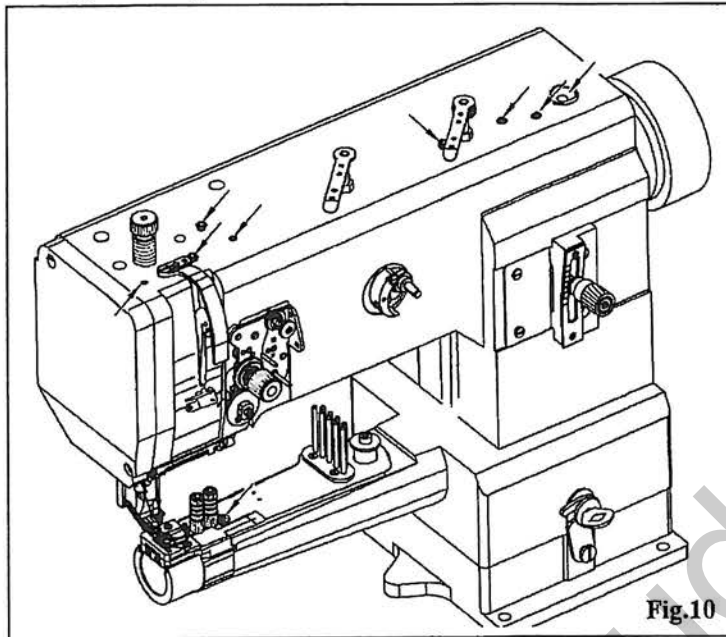
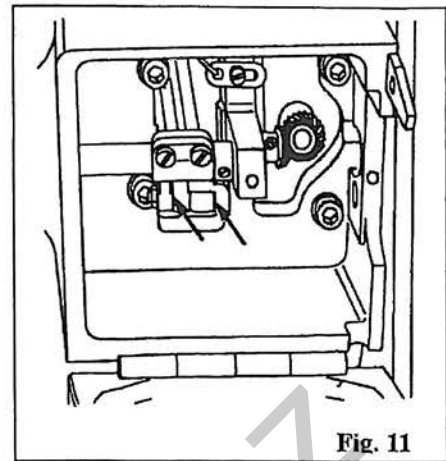

Fig.10
Fig. 11
- ① Clean the rotating hook and rotating hook area daily, more often with constant use.
- ② Bring the needle bar to its highest position and remove the free arm cap.
- ③ Take out the bobbin capsule and bobbin.
- ④ Unscrew capsule holder piece.
- ⑤ Take out screw and lift up the rotating hook handle.
- ⑥ Turn the balance wheel until point stands at the same height as rotating hook point .
- ⑦ Take out the lower capsule and clean the rotating hook path with petroleum.
- ⑧ Put it back together in reverse order of the above. Make sure that the nose on the back of the capsule holder piece meshes with groove.
- ⑨ Unscrew rotating hook handle and put in the bobbin capsule with bobbin.
- ⑩ Draw back the free arm cap.
3) GENERAL OILING (Fig.10, Fig.11)
Oil all the bearing positions shown in Fig 10 and 11 twice weekly.